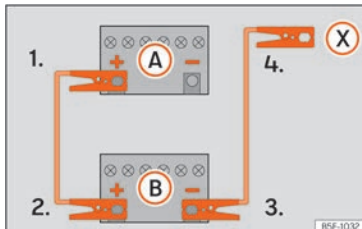

Fig. 68 Diagram of connections for vehicles without Start Stop system
- Connect one end of the *red* jump lead to the positive (+) terminal of the vehicle with the flat battery (A) » Fig. 68.
- Connect the other end of the *red* jump lead to the positive terminal (+) in the vehicle providing assistance (B).
- a. *In vehicles without a Start-Stop system:* connect one end of the *black* jump lead to the negative terminal (-) of the vehicle providing the current (B) » Fig. 68.